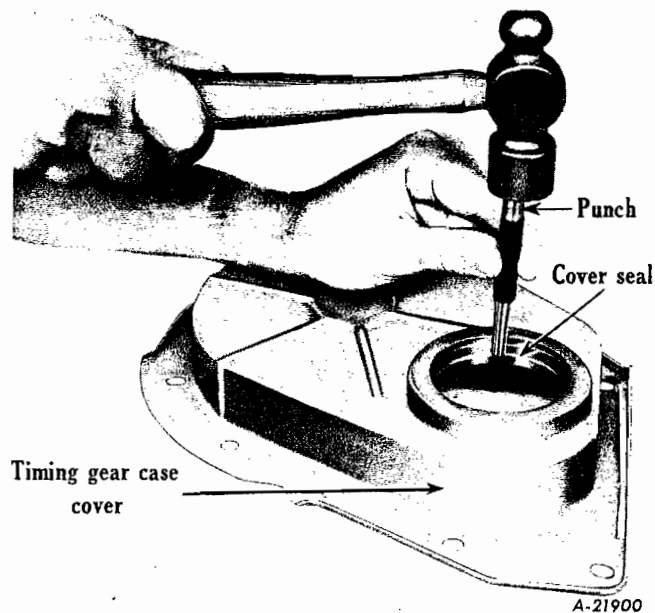
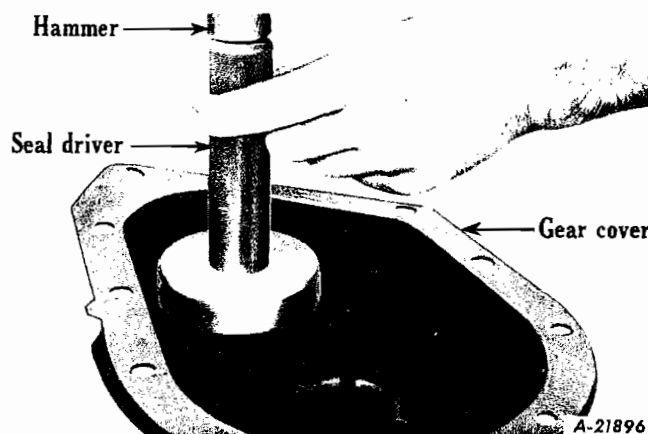

Fig. 62
Fig. 63 - Use SE-1718 Seal Installing tool with the SE-1581-B Handle.
7. Inspect engine gear case cover, and replace if cracked or broken. Remove old cover seal (Fig. 62) and with special driver install new seal (Fig. 63).